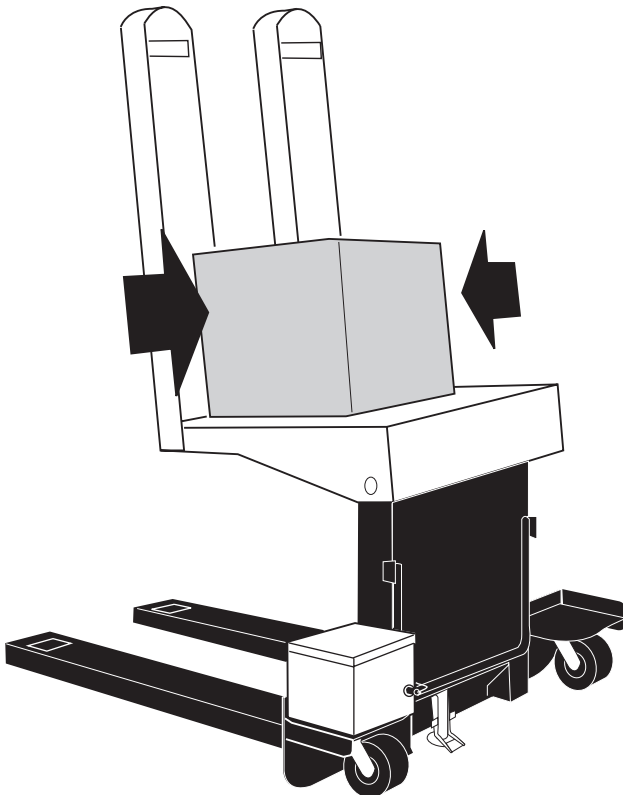

Fig. 5 Center the Load
3. The load should be balanced in the side-to-side direction. Whenever possible, place the load in the center of the tilting platform, as shown in Fig. 5. If the load is off-center on the pallet, place the heaviest part of the load near the back of the tilt platform – never near the front!
3. Be sure the load is balanced side-to-side, as shown in Fig. 5.